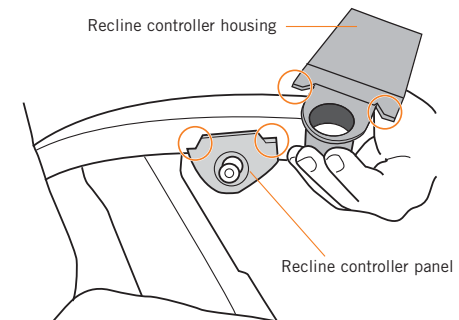

Fig.1
2. **PC-610:** Note the shape of the top of the recline controller panel and the matching shape of the recline controller housing (Fig.1).